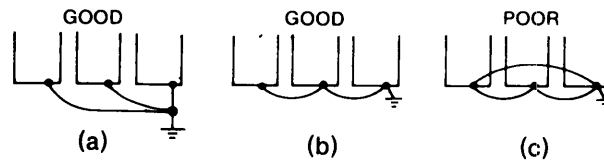

Fig. 9 Grounding of Three VS-616HII Units
- (1) Ground resistance should be  $100\Omega$  or less.
- (2) Never ground VS-616HII in common with welding machines, motors, and other large-current electrical equipment, or ground pole. Run the ground lead in a separate conduit from leads for large-current electrical equipment.
- (3) Use ground lead listed in Table 3 and make the length as short as possible.
- (4) Even when VS-616HII is grounded through its mounting such as channel base or steel plate, be sure to ground VS-616HII using the ground terminal  $\textcircled{E}$  ( $\textcircled{G}$ ) .
- (5) Where several VS-616HII units are used side by side, all the units should preferably be grounded directly to the ground poles. However, connecting all the ground terminals of VS-616HII in parallel, and ground only one of VS-616HII to the ground pole is also permissible (Fig. 9). However, do not form a loop with the ground leads.